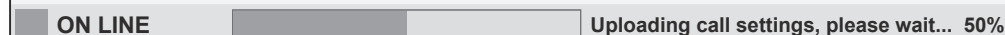

Fig. 129
- **UPLOADING (ON LINE):** see **Fig.129**, this indicates that the software is currently uploading any programmable settings, call button numbers/apartment numbers, dial to open numbers etc. to the GSM module.